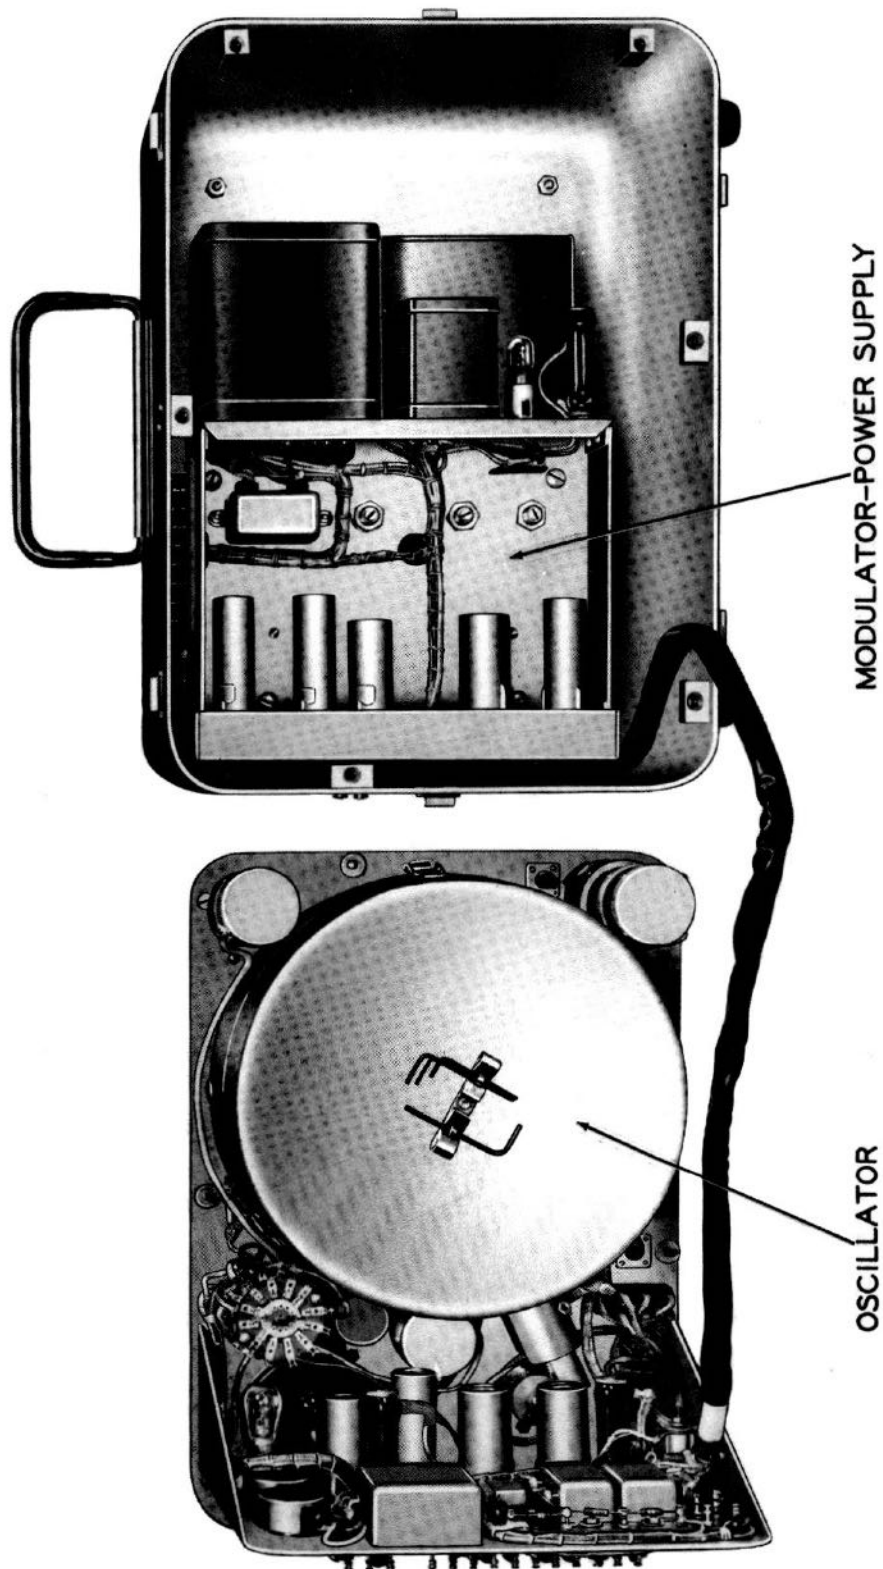

Figure 2-2. RF Signal Generator SG-45A/URM-26, Interior
a. The power supply employs a conventional electronic tube rectifier V-101 to produce the direct current plate potential (B voltage) for all tubes. An electronic voltage regulator consisting of tubes V-102, V-103, and lamp E-103 maintains a substantially constant plate potential for the RF oscillator and modulator circuits, and also for the associated monitoring circuits. The power supply is assembled together with the modulator on a separate chassis as shown in figure 2-2. A functional schematic of the power supply is shown in figure 2-3.